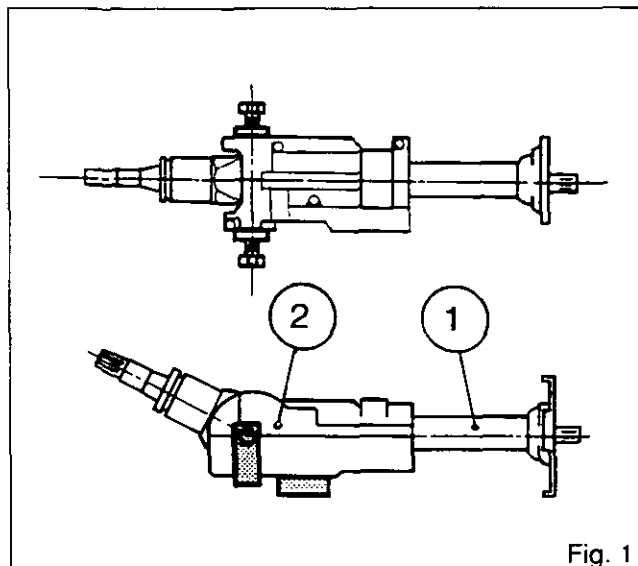

Fig. 1
5. Fit the yoke of special tool 3582244M1 on housing (1), lining up the 2 screws with the holes in the swivel joints (3). Tighten the 2 screws (Fig. 1).
6. Place a shim about 20 mm thick under housing (1) in order to line the assembly up correctly.
8. Remove top housing (2).
9. Remove : guide (19), rollers (17), spring (18), guide (23) and spring (22) (use a screwdriver).
10. Tilt joint (3) to reduce the pressure of springs (16). Remove guide (13), rod (14), springs (16) and washer (15) (with a screwdriver).
11. Remove the yoke and withdraw the column assembly from housing (1), complete with corrugated washers (12).
12. Drive out pin (8) and remove rod (11) complete with rack (7), spring (9) and washer (10).
13. Remove the 2 screws (6) with a 3 mm Allen key. These screws are difficult to extract because they are fitted with Loctite.
14. Remove rack (4).